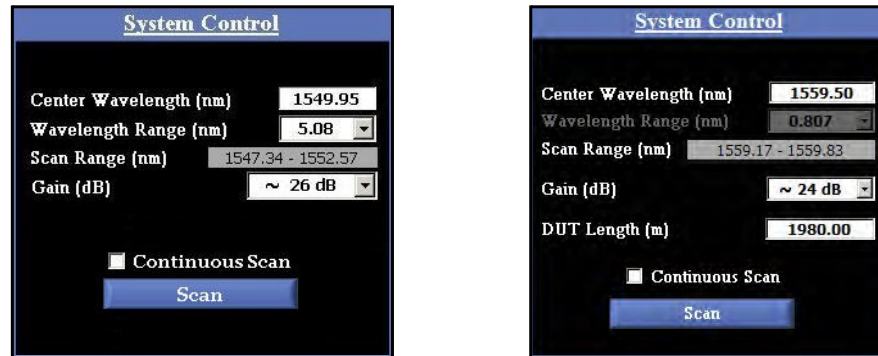

Figure 4-6. The **System Control** area in the main OBR software window, shown in **Normal** (left) and **Extended** (right) **Distance Range** modes.
- 5 Enter an appropriate **Center Wavelength** in the **System Control** area (Figure 4-6).
- 10 Click **Scan** in the **System Control** area (Figure 4-6).
- 3 Click **Scan** in the **System Control** area (Figure 4-6).